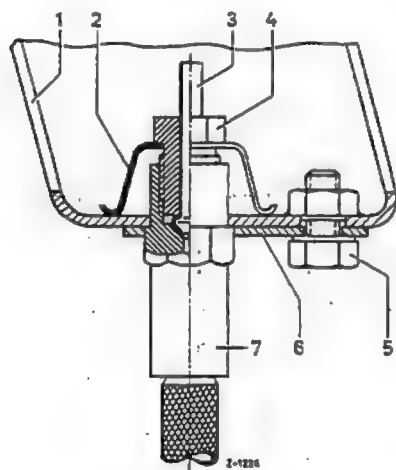

Fig. 33-1/20
30. Check the brake hoses (7) right and left and make sure that they fit tightly into the brake line. Loosen the hexagon screw (5) on the retainer (1) and insert the brake hose in the protection plate (6) at the retainer (1). Take care that the hose is not twisted. Tighten the hexagon nut (5) on the retainer. Fit the brake hose retainer (2), screw the sleeve nut (4) of the brake line (3) into the brake hose and tighten, holding the brake hose steady (Fig. 33-1/2).
32. Pull the center brake cable (5) through the guide on the front axle support and fit it to the hand-brake lever (4) Fig. 33-1/2).